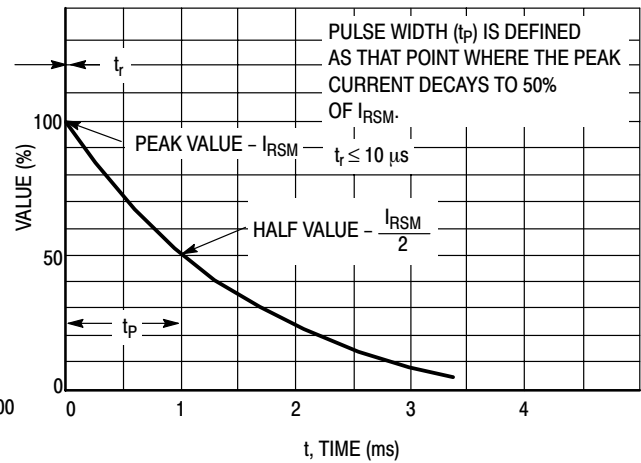
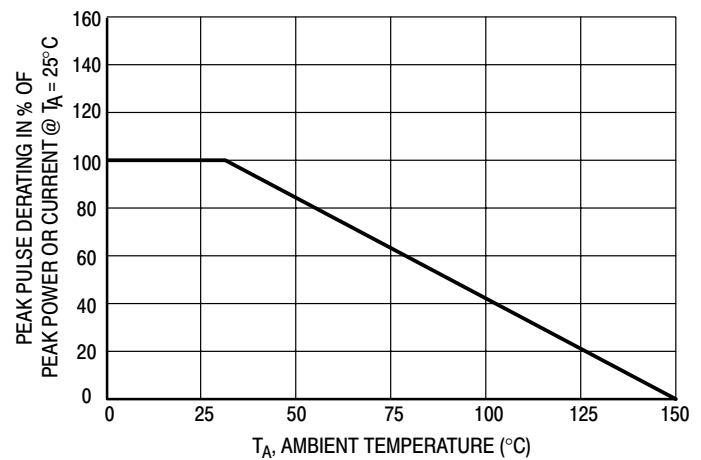

Figure 2. 10 X 1000  $\mu$ s Pulse Waveform
Figure 4. Pulse Derating Curve
7. Surge current waveform per Figure 2 and derate per Figure 4.